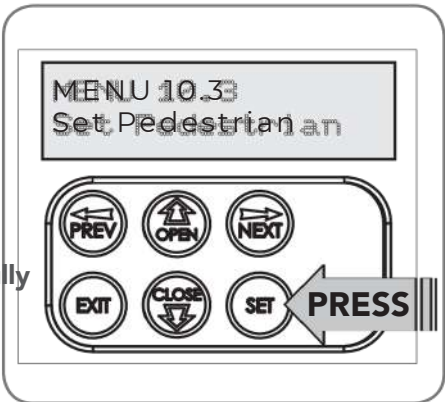

Fig 14.1
- d. Press SET to enter Set Pedestrian procedure (Fig. 14.1).